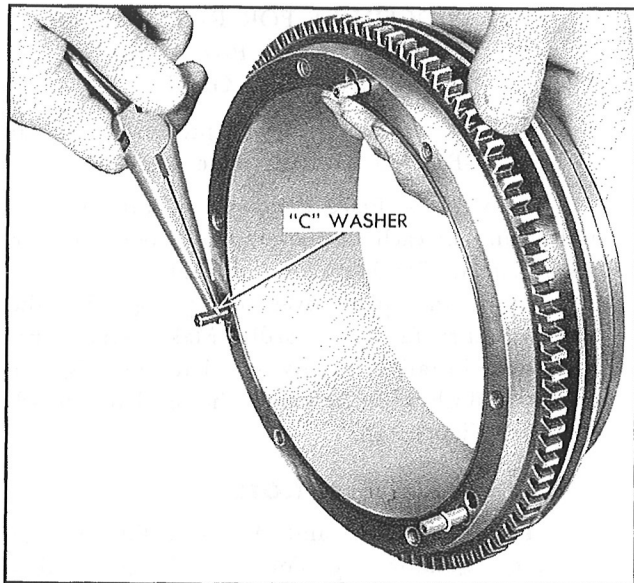

Figure 177—Disassembly of Regulator Gear, Models A632S-B1, -B5, and -C1
*Step 1.*—Facing the gear side, lift the three stop pins of the regulator gear and remove the "C" washers from each, as shown in Figure 177.